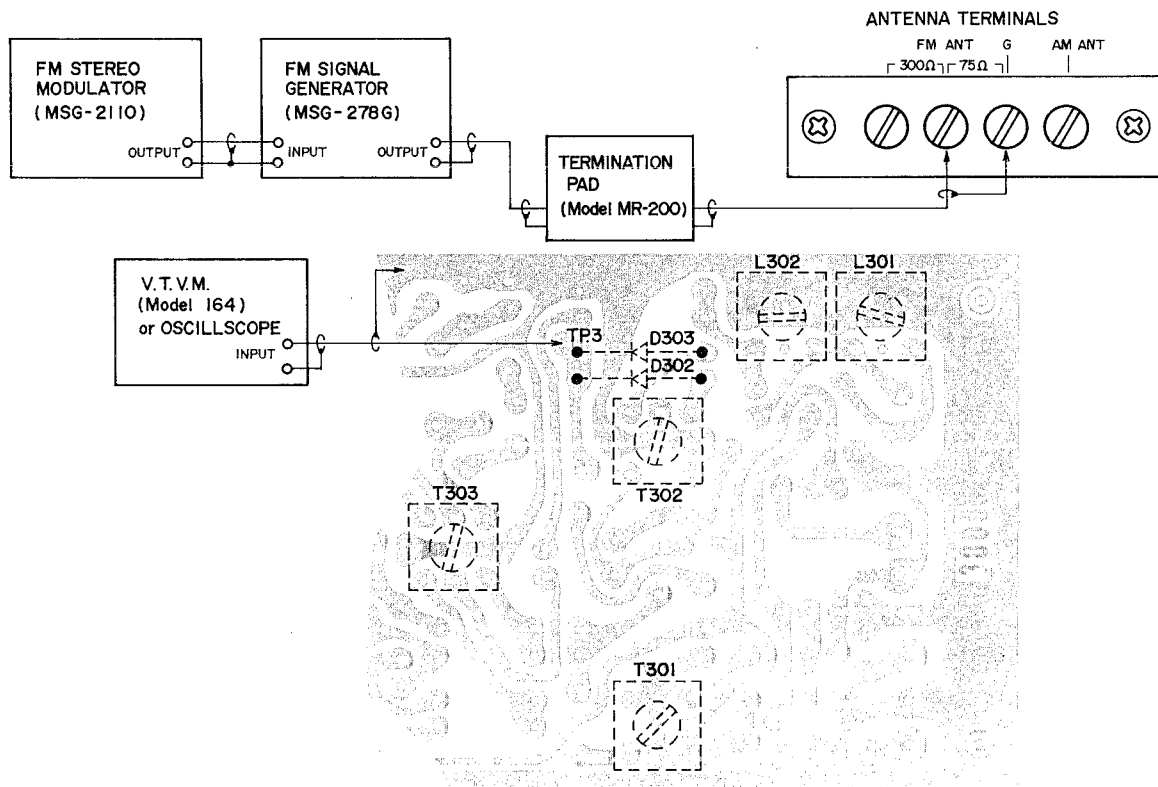

Fig. 21 FM MPX. AMP. P.C. BOARD 3008 (Reverse Side)
- 1) Connect the various measuring instruments as shown in Fig. 21.
- 5) Adjust the cores of FM MPX. Amp. P.C. Board coils T301 and T302 as shown in Fig. 20 so that the indication of the high sensitivity V.T.V.M. connected to test point TP.3 shown in Fig. 21 or the wave height value of the oscilloscope is maximum.